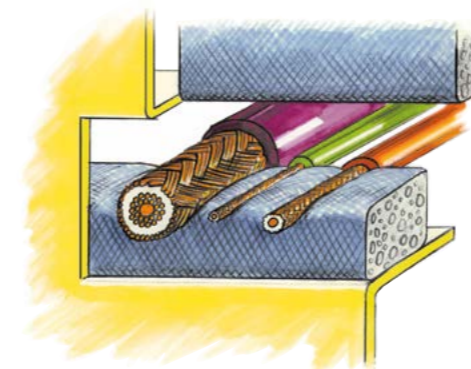

Figure 10: Wires penetrates a shieldv
**10 When a wire penetrates a shield** that is not completely connected to the shield, it will work as an antenna and this reduce the shielding performance of the cage. This is especially the case at higher frequencies. (Fig. 10)